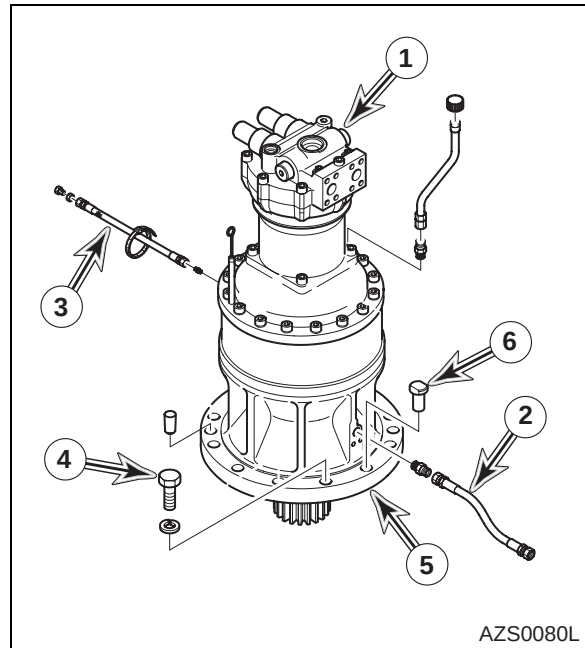

Figure 8 SOLAR 470LC-V
11. Tag and disconnect hoses from swing motor (1, Figure 8). Plug and cap hoses and ports to prevent contamination from entering hydraulic system or component.
12. Disconnect tube (2, Figure 8) from reduction gear box (5). (Solar 470LC-V)
13. Disconnect grease lubrication line (3, Figure 8) from reduction gearbox (5).
14. Remove twenty-two bolts and washers (4, Figure 8) holding swing reduction gearbox (5) to frame.
15. Using a suitable lifting device, sling swing motor (1, Figure 8) and remove swing motor and reduction gearbox (5) as an assembly from unit.
NOTE: There are two alignment pins (6, Figure 8), on reduction gearbox flange.